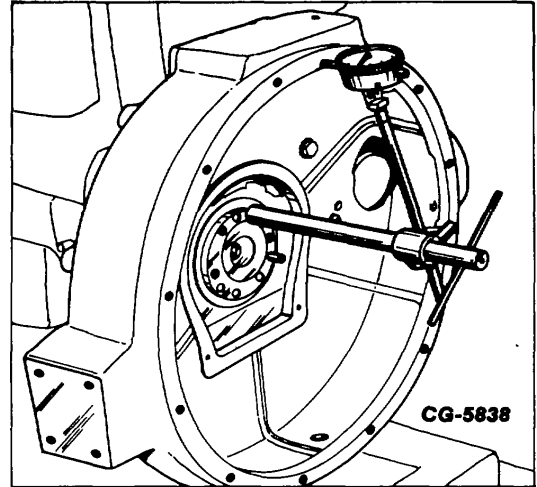

Figure 13. - Checking Run-Out of Flywheel Housing Face in Relation to the Axis of the Crankshaft
- c. Keep crankshaft "end play" at zero in the same direction for all readings as shown in Fig. 13.